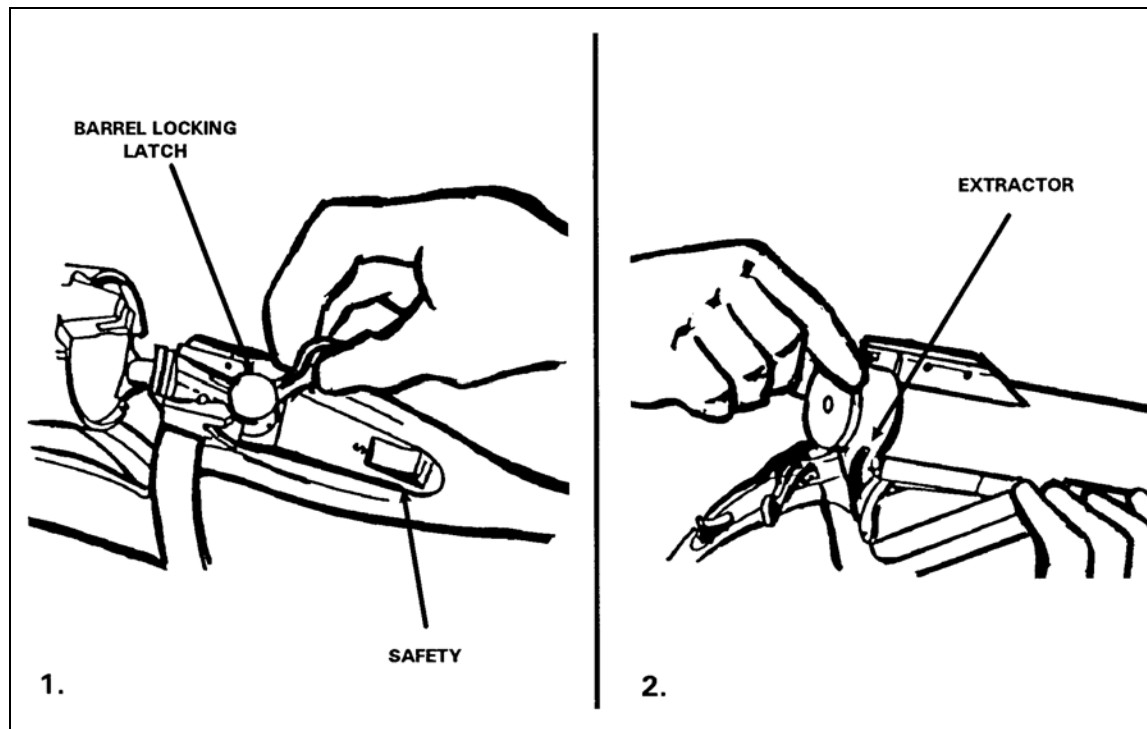

Figure A-13. Loading the grenade launcher.
- a. **Loading.** To load the weapon (Figure A-13)--
- (1) Move the barrel locking latch as far to the right as possible.
- (2) Insert a round into the chamber, ensuring the extractor contacts the cartridge case rim.
- (3) Close the weapon.
- (4) Place the weapon on SAFE.